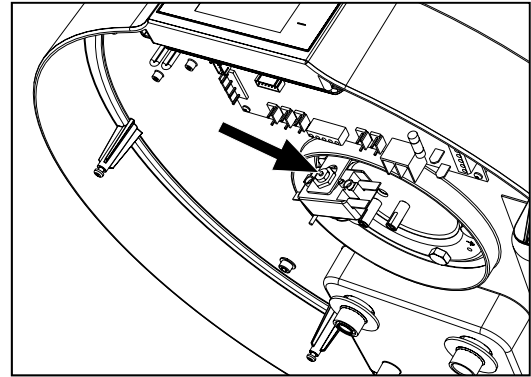

fig. 65- Safety thermostat reset
- Manually reset the tripped safety thermostat (fig. 65). In